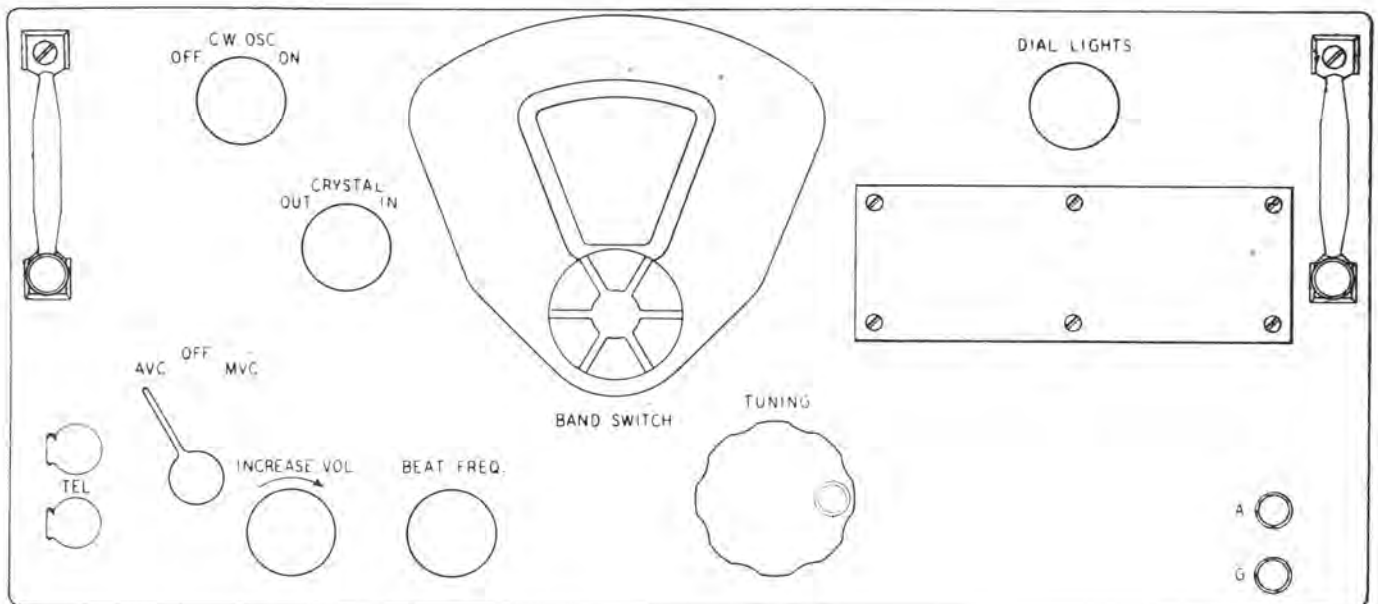

Figure 3 — Radio Receiver BC-348-J, View of Front Panel
- (1) Check the connections at the aircraft power supply.
- (2) Check the connections at the transmitter relay.
- (3) Check the connections at the interphone system, if used.
- (4) Check the power connections to auxiliary equipment, if used.
- (5) Check the antenna and ground connections.
(6) Make sure the thumbscrew rods holding the chassis in the cabinet are tight.
(7) Make sure the snapslides are locked and secured with safety wire
b. CONTROLS.—The operator should become thoroughly familiar with the controls on the front panel (see Figure 3) and their function before beginning the operating test.
(1) AVC-OFF-MVC. — Power to the receiver is controlled by the AVC-OFF-MVC receiver switch. With this switch in the OFF position, no power is supplied to the receiver. When switched to either the MVC or AVC position, power from the primary source is supplied to the tube heaters and dynamotor, placing the equipment in operation. The screen grid voltage supply leads are carried out of the receiver through the power plug to the keying relay of the associated transmitter where the circuit is opened when actually transmitting. (See Section II, paragraph 13*b*).
(2) DIAL LIGHTS. — The brilliancy of the dial illumination is controlled by this knob. The dial lamps may be adjusted for any desired degree of illumination or turned off completely.
(3) BAND SWITCH. — The frequency band in which the receiver is operating is indicated on the dial mask visible through the dial window. This band may be changed to any desired frequency band by turning the band switch control.